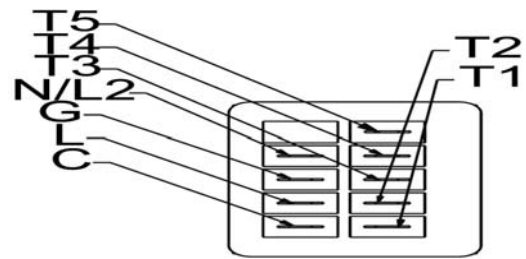

Figure 9: Constant Torque Motor Terminals
1. If the motor is not running, check for 240 VAC and 24 VAC at the motor terminals. If the 240 VAC and 24 VAC is present at the motor terminals but the motor is not operating, then replace the motor. Refer to Figure 9 and Table 1 for terminal locations and definitions.
- A. If the 240 VAC and 24 VAC is present at the motor terminals but the motor is not operating, then replace the motor. Refer to Figure 9 and Table 1 for terminal locations and definitions.